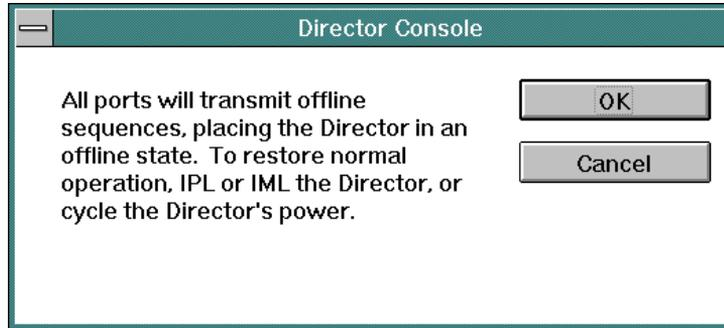

Figure 159. Set Director Offline Message Box
- At the *LMA Versions* dialog box, click the *Set Offline* button. The message box shown in Figure 159 appears.